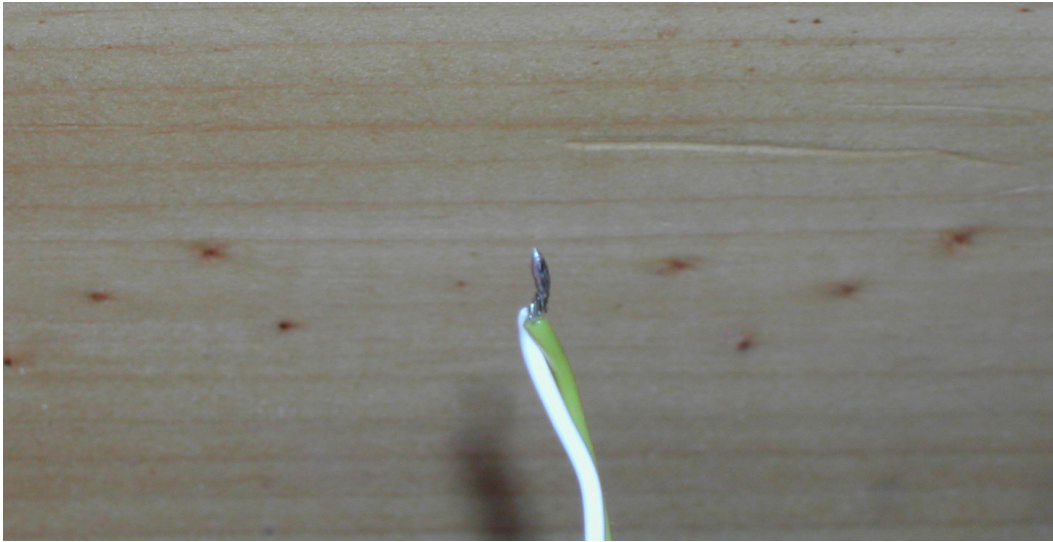

Figure 31: Gain wire shorted.
5. **Repeat for all the other wires.** However, if your photomultiplier has additional wires for setting the gain, do not crimp them. Instead, short the gain wires by twisting them together, soldering them to each other, and then wrapping tape around the exposed ends (Figure 31).